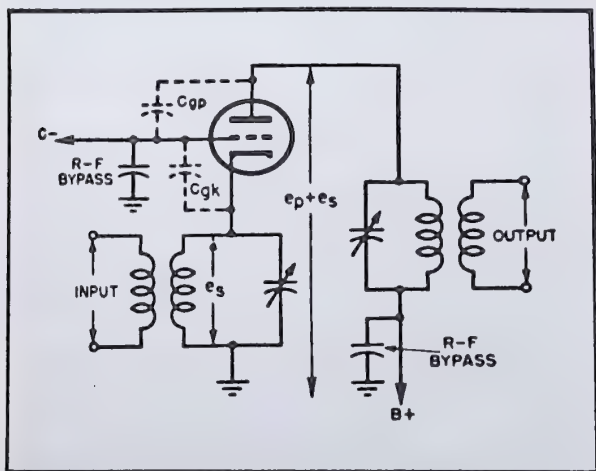

Fig. 10-8. Grounded-grid amplifier circuit.
**Class B Grounded-Grid RF Triode Amplifier with LC Tank Plate Load.** In the grounded-grid amplifier (Fig. 10-8) the signal is applied between the cathode and ground, the grid is grounded, and the output is taken across a load between plate and ground—in this case, the LC tank plate load.
overcome. In this circuit the grid is grounded through an rf bypass capacitor and serves as a shield between the input and the output circuits, thus preventing feedback of energy and resultant oscillation. It also has the advantage of very low output capacitance, since the only capacitance across the output added by the tube is that between grid and plate (Fig. 10-8). In tubes designed especially for this purpose, the capacitance is made very low, and large values of inductance may be used in the plate circuit at relatively high frequencies. This results in higher efficiency.